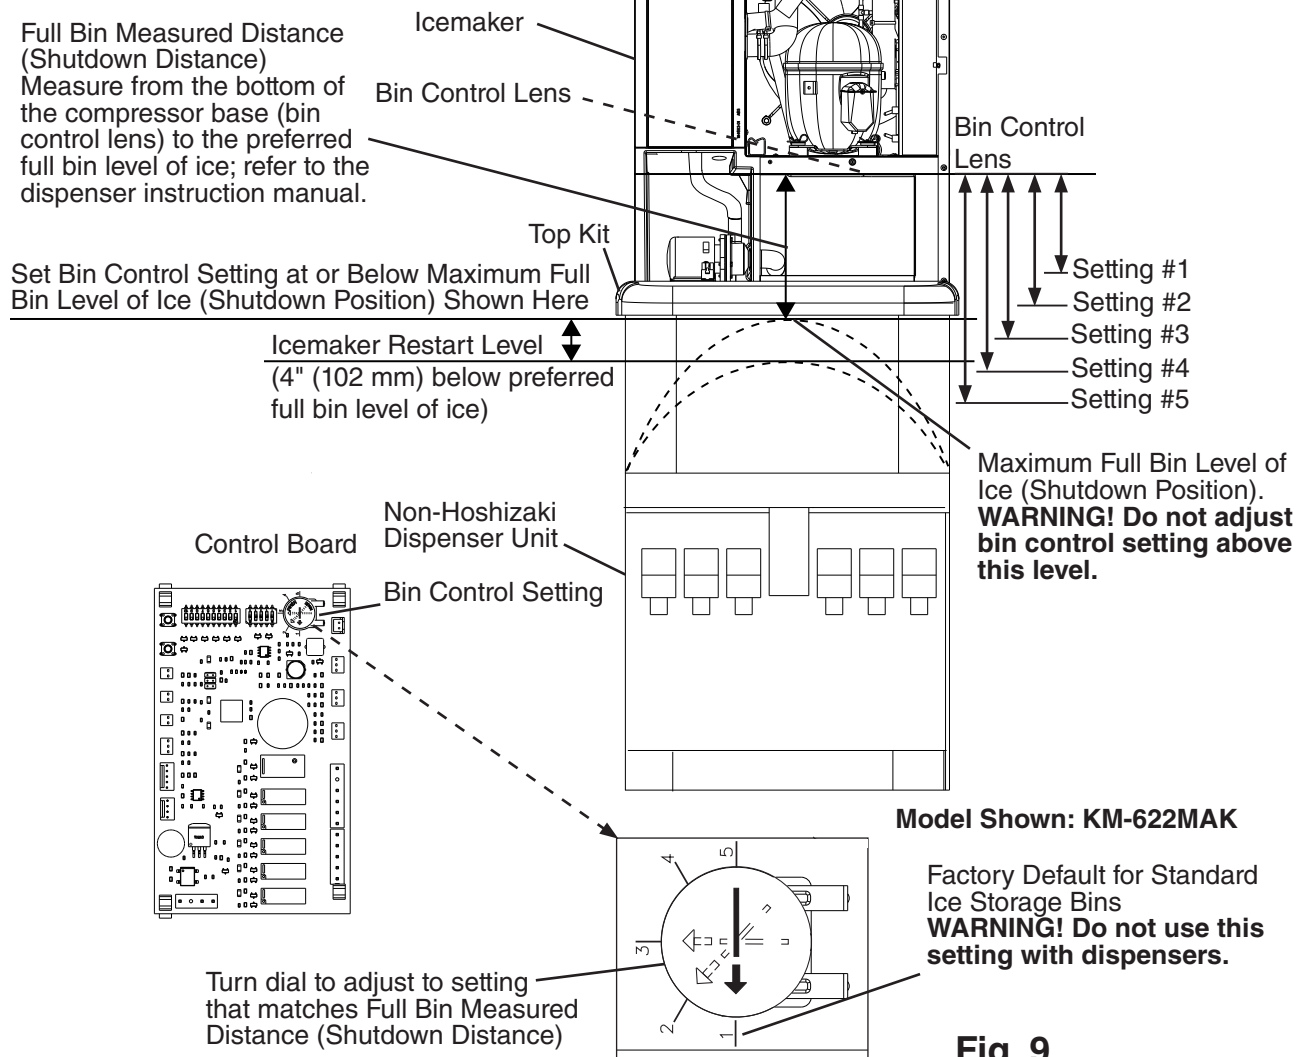

Fig. 9
For Non-Hoshizaki Dispenser Units. See Figs 9 and 10.
a) KM-322_522_622MAK. See Fig. 9.